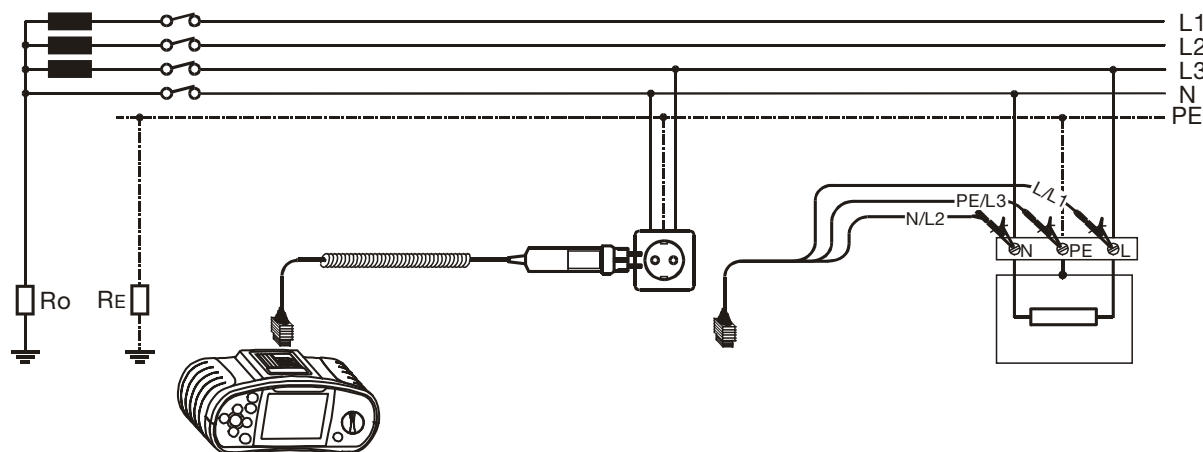

Fig. 5.29 Connection of plug cable and universal test cable
Step 3 Follow the connection diagram shown in figure 5.29 to perform loop impedance measurement. Use the **Help** function if necessary.
Step 3 Follow the connection diagram shown in figure 5.29 to perform loop impedance measurement. Use the Help function if necessary.